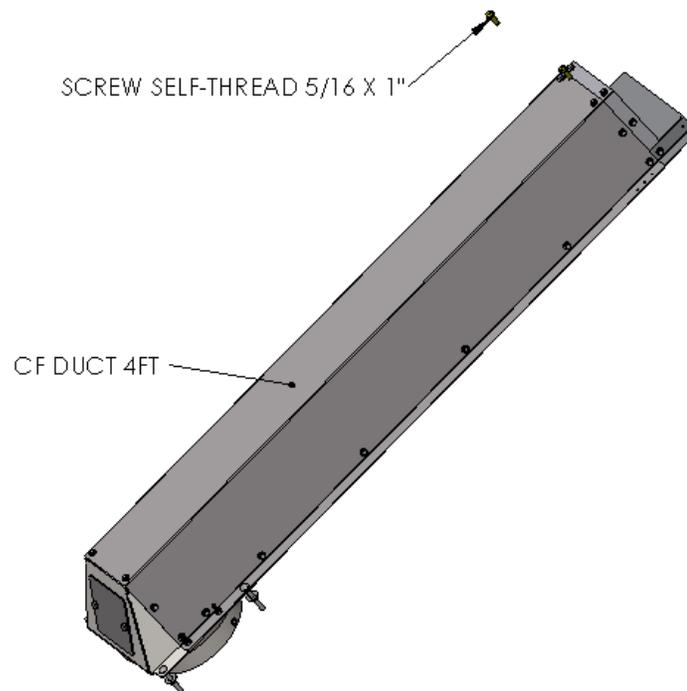

Figure 3.4.2a: COLUMN HOPPER 4FT
1. See Figure 3.4.2a below, ensure your electric driver with  $\frac{1}{2}$ " socket, electric drill with  $\frac{9}{32}$ " bit and the  $\frac{5}{16}$  X 1" SELF-THREADING SCREWS are positioned where they can be easily reached.